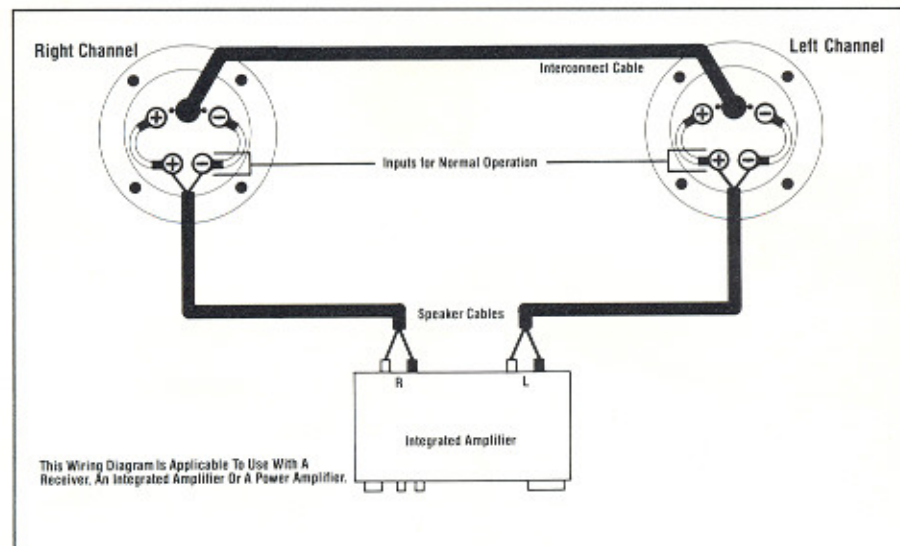

FIGURE 4. Connections for Normal Operation
4. Find the amplifier outputs. They will be marked + (plus) and - (minus), or will be colored red and black. Red corresponds to + (plus) and black corresponds to - (minus). Now, refer to figure 4 to locate the terminals on the speaker labeled 'Inputs for Normal Operation'.
5. Using whatever speaker cable you have (see the section on "Speaker Hookup Wire"), connect the left channel amplifier outputs to the left speaker, making certain to connect the red or + (plus) output to the red terminal on the speaker. Connect the black or - (minus) amplifier output to the black terminal on the speaker. Using another length of speaker cable, connect the right channel amplifier outputs to the right speaker in the same way. IT IS IMPERATIVE THAT THE AMP AND SPEAKERS BE CONNECTED IN CORRECT ABSOLUTE PHASE FOR THE SDA-SRS TO FUNCTION PROPERLY. See figure 4 to check your connections.